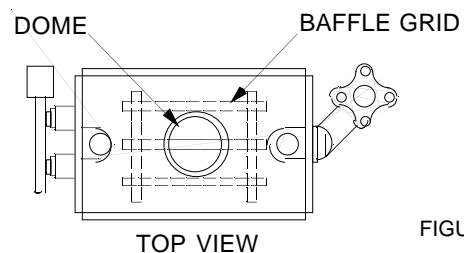

FIGURE 1.2
3. Check proper seating of baffle grid inside of dome opening (see Figure 1.2).